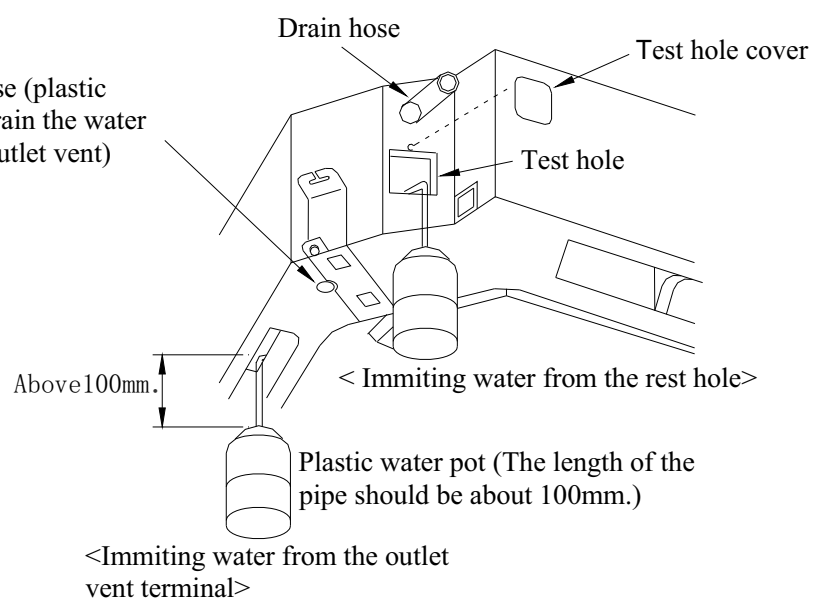

Figure 1-3-12
- ◆ Check the drain state by immiting 600cc water slowly from the outlet vent or test hole. (As shown in Figure 1-3-12)